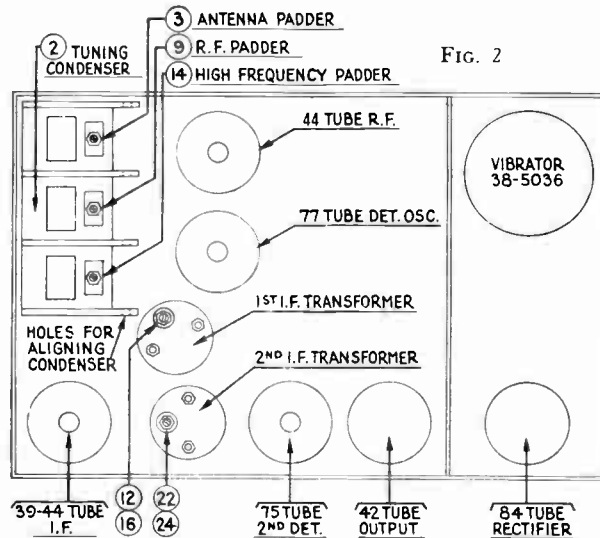

FIG. 2
Remove the speaker lid from the Receiver. Remove the grid cap terminal from the 77 tube (for location see Fig. 2).
Set up the signal generator and adjust it to exactly 260 K. C. Connect the generator lead to the grid cap of the 77 tube. (See Fig. 2.) The output meter must be connected.
The padders ② and ③ are adjusted first (Figs. 2 and 3). Turn the adjusting screw ② all the way in. A small screwdriver can be used for this. Then, with generator attenuator set so there is approximately half-scale reading, adjust the nut ④ with a fibre wrench for the maximum reading on the output meter.
There are four holes in line, one in each of the sections of the tuning condenser housing. (See Fig. 2.) Place a nail of the size that fits snugly through the holes and then turn the condenser plates out of mesh until they strike against the nail.